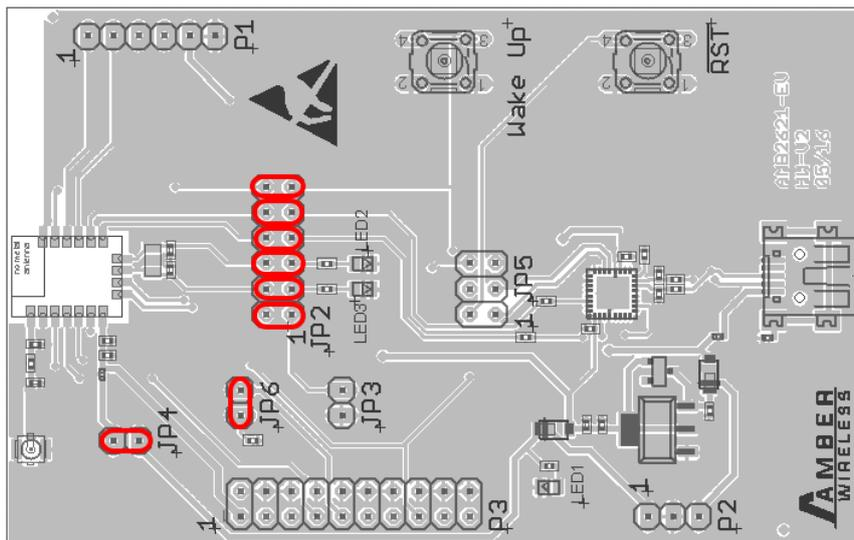

Figure 1: Default jumper placement of the Proteus-I and Proteus-II EV-Board. Red means "jumper must be set".
- the Proteus-I EV-Board with jumpers set as specified in figure 1. Other jumpers not set.
- the Proteus-II EV-Board with jumpers set as specified in figure 1. Other jumpers not set.